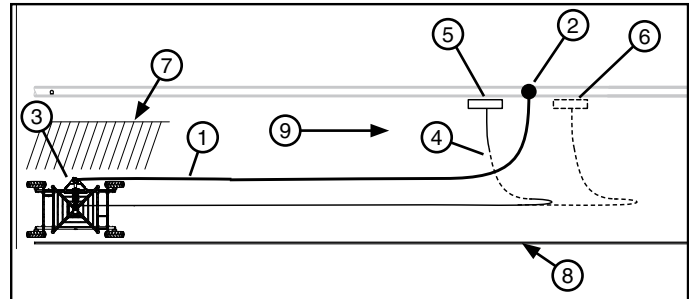

Figure 53-1 1. First Hose
1. Connect the first hose to the pipeline shut off valve and linear cart side inlet, then latch in place. See Figure 53-1.
- (b) Position the electric cord far enough away from the hose, so that the hose will not drag over it. To prevent interference between the electric cord, cart tires and hose, bury the electric cord in the area where interference will occur or when applicable, position the electric cord over the top of hose. See Figure 53-1.